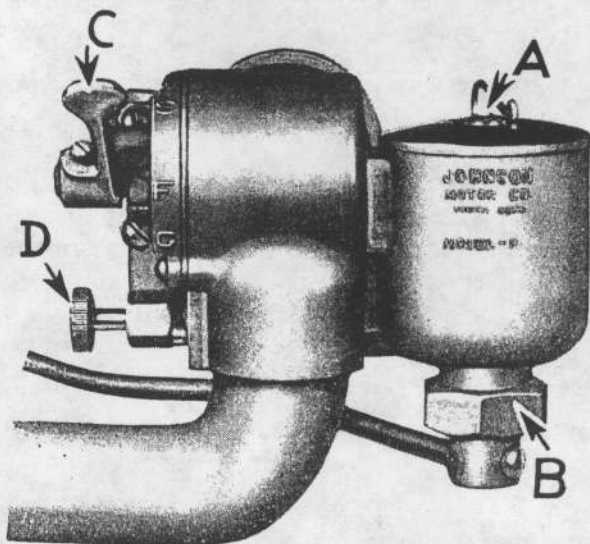

Fig. 9. Front view of carburetor showing float pin, settling basin, gas throttle and needle valve.
1. Push down on the float pin (A, Fig. 9) and hold it until the gasoline begins to overflow.
2. Open the needle valve (D, Fig. 9) at least one and one-half complete turns before attempting to start the motor when it is cold. If the weather is *extremely cold*, it should be opened two complete turns or more. Correct opening of needle valve will vary slightly on certain motors, so familiarize yourself with the needle adjustment.
4. Push the throttle lever (C, Fig. 9) down as far as it will go. This is in "choke" position.
CLEANING CARBURETOR: Should the motor stop firing suddenly or fire irregularly while running, note the position of the float pin in the carburetor (A, Fig. 9). If the pin is down, it indicates that either the gasoline tank is empty or sufficient gasoline is not reaching the carburetor. This is probably due to the presence of dirt or water in the screen or gasoline line.
Keep the carburetor clean, and above all keep dirt and water out of the gasoline tank. It is advisable to remove the strainer and also the settling basin on bottom of carburetor (B, Fig. 9) to clean thoroughly, at the same time rinsing out the gasoline tank line and carburetor with clean gasoline. Be certain that gasket is in place when replacing nut on bottom of carburetor.